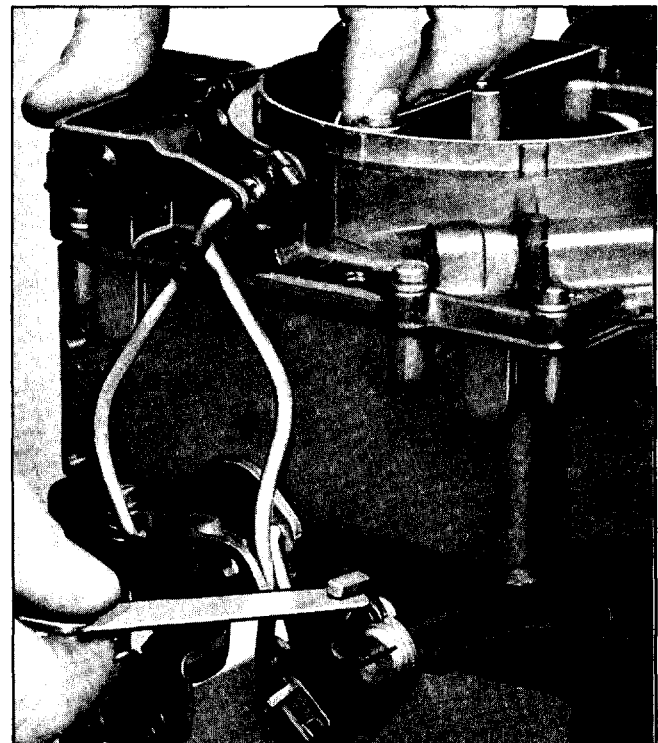

Fig. 6B-138 Checking Secondary Throttle Contour Clearance
1. With choke valve held wide open and the fast idle cam and secondary lockout lever positioned as shown in Fig. 6B-138, there should be a clearance of .015" between the cam and the tang.